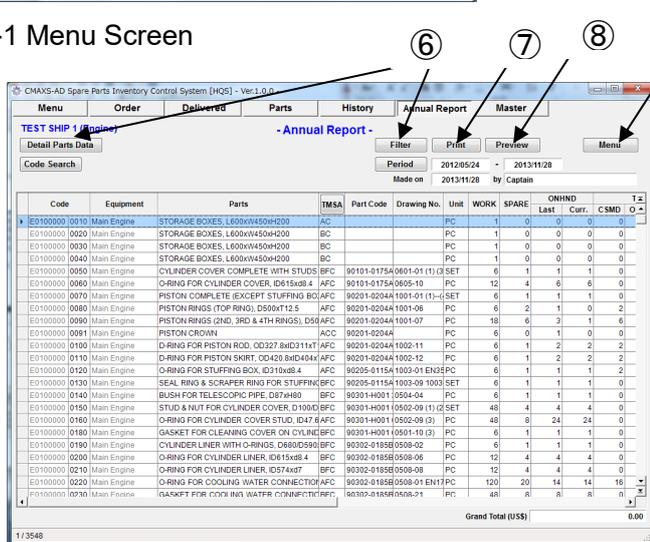

Fig.11-3 Annual Report Screen
- (5) "Annual Report Screen"(Fig.11-3) is displayed. In this screen, all spare parts registered in master database are shown.
- (6) "Code Search" function or "Filter" function can be used to find spare parts.